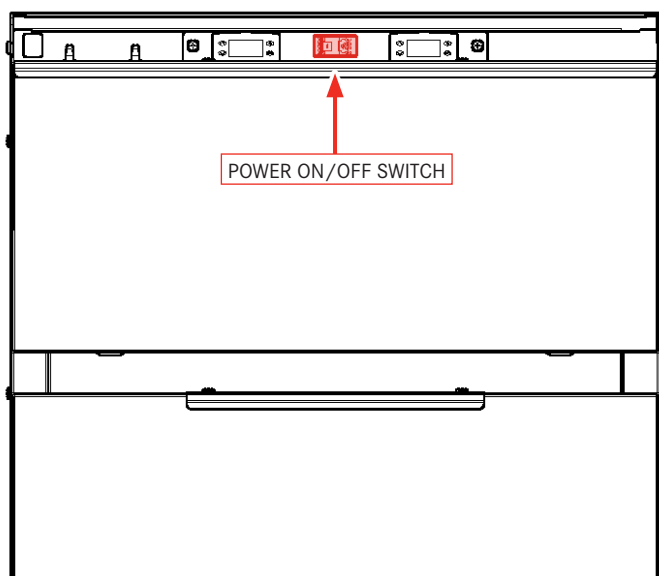

Fig. 13
1. Turn power switch ON (Fig. 13).